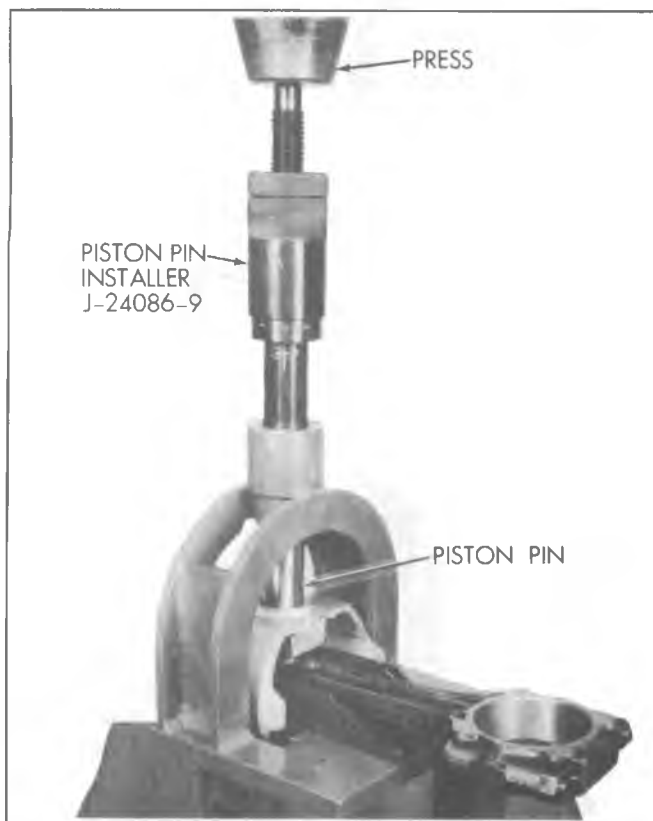

Fig. 6A1-41--Installing Piston Pin
3. Using piston pin installer, J-24086-9, press the piston pin into the piston and connecting rod (Fig. 6A1-41).